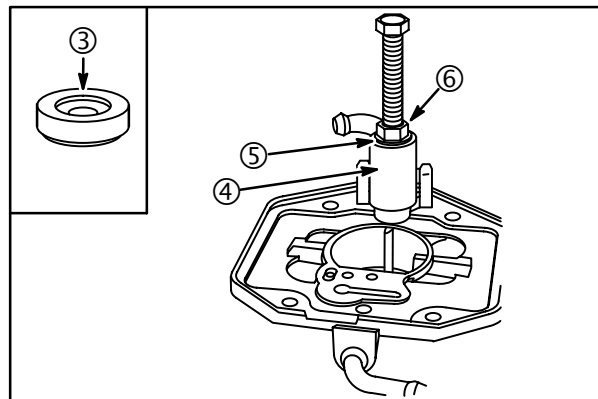

Fig. 105
3. Install 1/4" x 20 Nut **#92278** (6) and Washer **#224061** (5) from Tool Kit **#19332** onto screw, Fig. 105.
4. Place a 1/4" drive 3/8" (9 mm) socket (4) over seat body.
7. Remove fuel inlet seat (3).